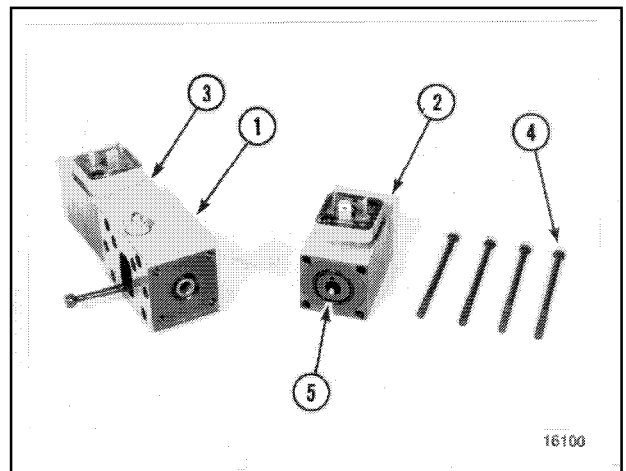

Figure 42
47. Scribe match marks across control unit (1, Figure 42) and solenoids (2 and 3). Remove four screws (4) and remove solenoid (2) from control unit (1).
48. Remove O-ring (5) from solenoid (2).
49. Repeat for second solenoid (3).